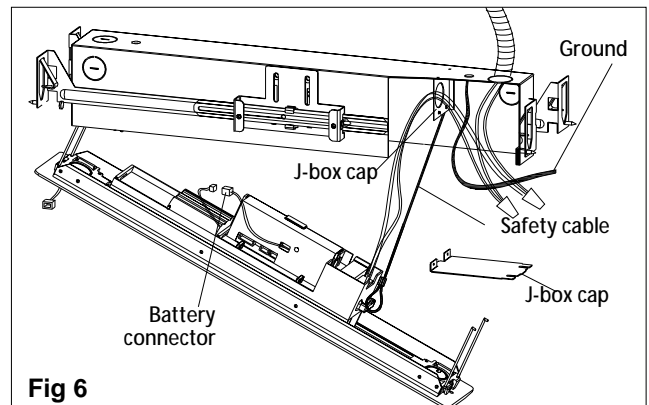

Fig 6
2. Separate trim plate, press one side spring to take out the module, connect battery connectors.(see Fig 6)
3. Hang safety cable to the module clip.(see Fig 6)
4. Disassembly J-box cap, Route the AC line and proper wires into the J-Box.(see Fig 6)
6. Push excess wire into J-Box, tighten J-box cap back.(see Fig 6)